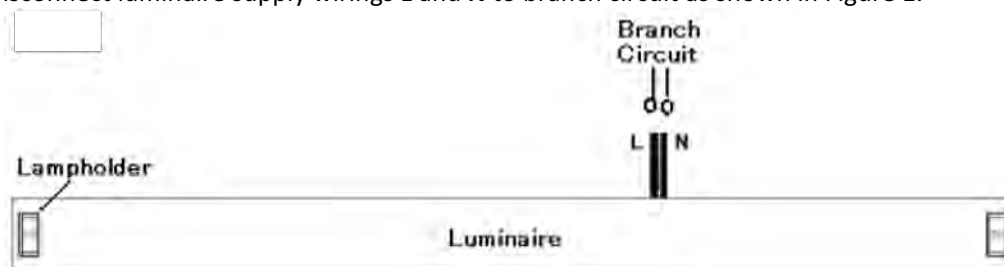

Figure 1
STEP 3: Disconnect luminaire supply wirings **L** and **N** to branch circuit as shown in Figure 1.